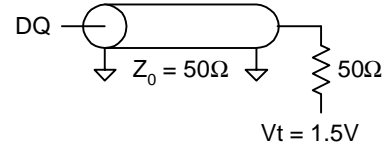

Fig. 1 OUTPUT LOAD EQUIVALENT
5. Test conditions as specified with the output loading as shown in Fig. 1 unless otherwise noted.
14. Capacitance derating applies to capacitance different from the load capacitance shown in Fig. 1.